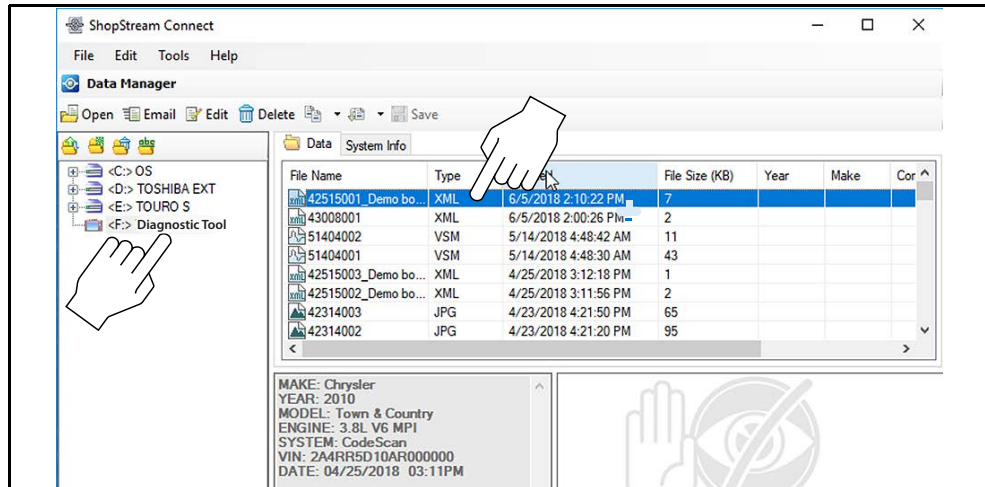
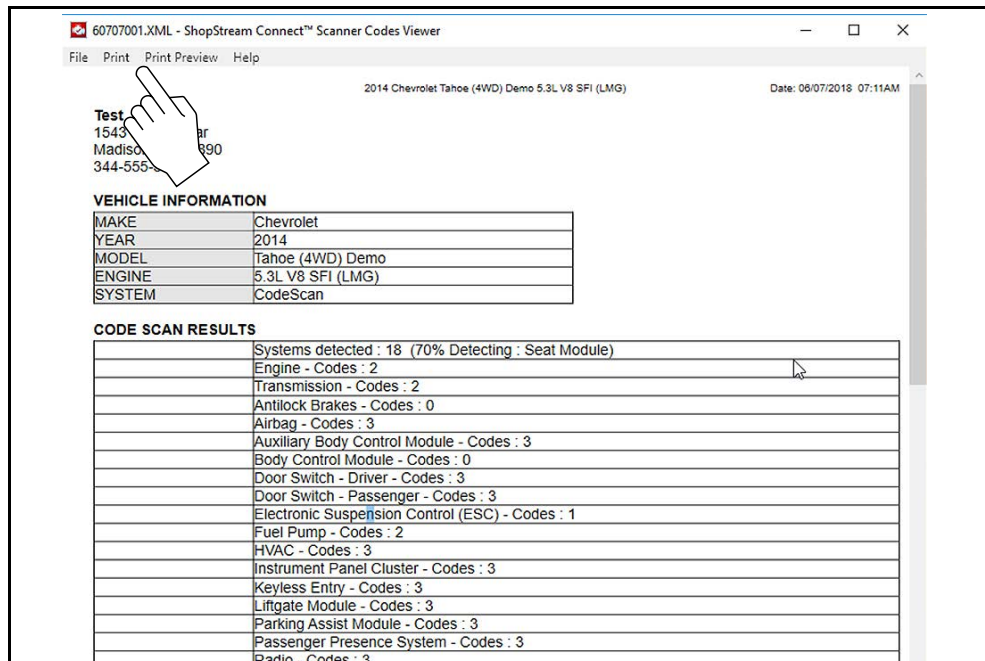

Figure 9-5
Figure 9-6
1. Double-click the code scan .XML file from the file list to open the report (Figure 9-5) in the Code Scan Viewer (Figure 9-6).
2. Select **Print** or **Print Preview** from the Code Scan Viewer menu to print or preview the report (Figure 9-6).